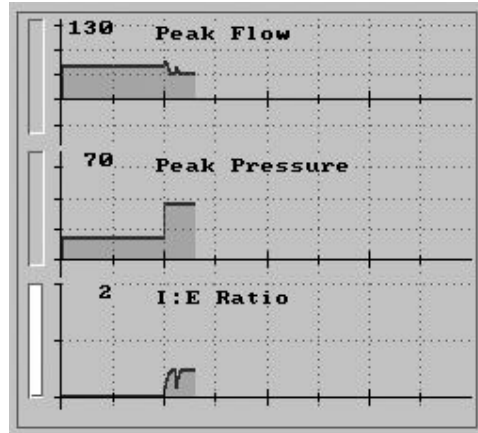

Figure 107: I:E Ratio Displayed
4. Dial to select one, then press to make your selection. The selected parameter is displayed in the **Trends Graph** window (Figure 107).